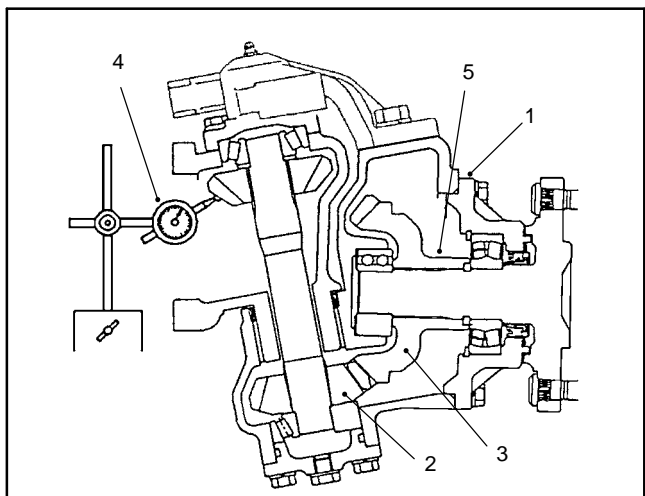

Figure 24
9. Remove the bevel gear case/axle case assembly from the axle support. Coat a new O-ring with grease and temporarily install the axle cover assembly. Position a dial indicator at the tooth center. Prevent the axle from turning and measure the lower bevel gear to axle gear backlash (Fig. 24).